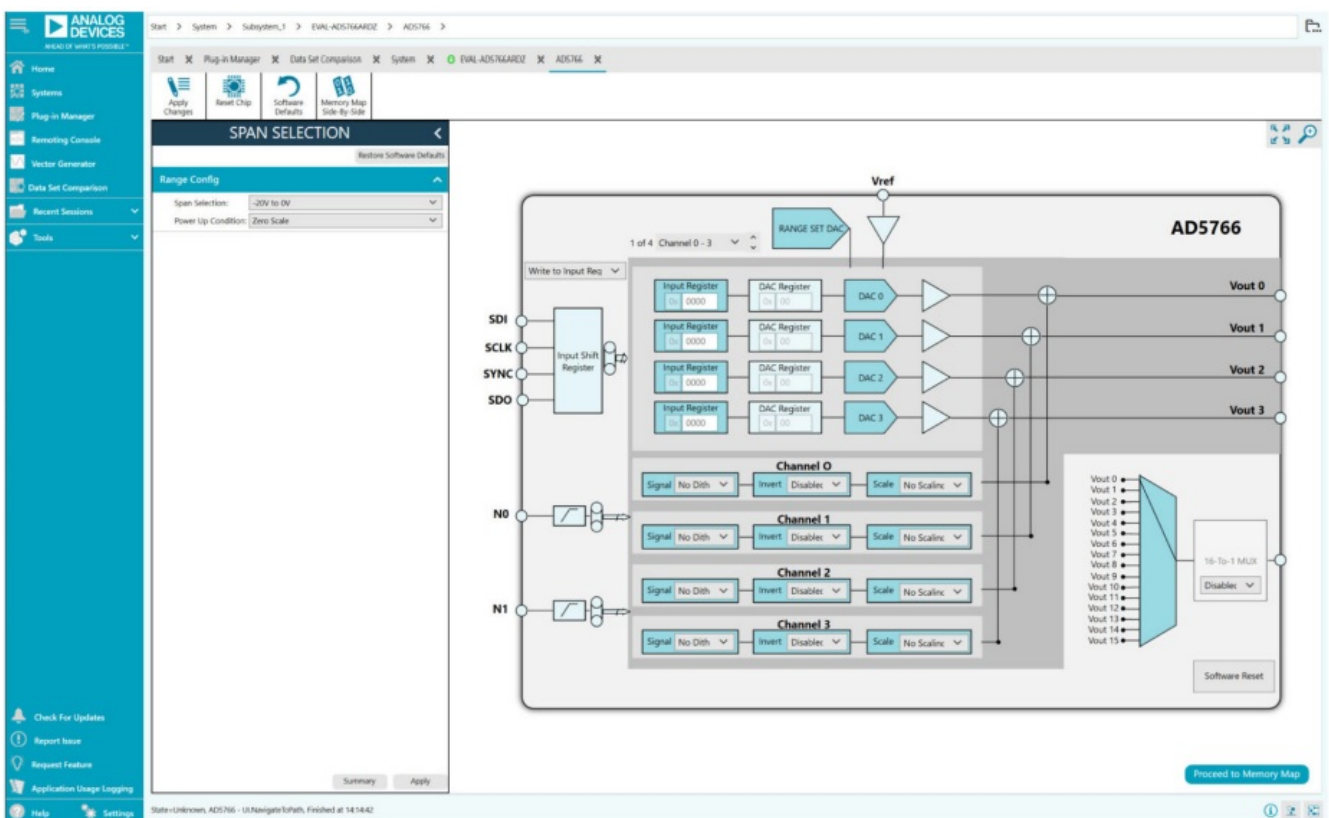

Figure 6. AD5766 Chip Tab for the EVAL-AD5766ARDZ ACE Software
- Double-click the AD5766 icon to open the AD5766 chip tab (see Figure 6). This tab displays the block diagram and allows the user to configure the digital-to-analog converter (DAC) input registers and control registers. The hardware registers on the AD5766/AD5767 are not altered until the Apply Changes button is clicked.